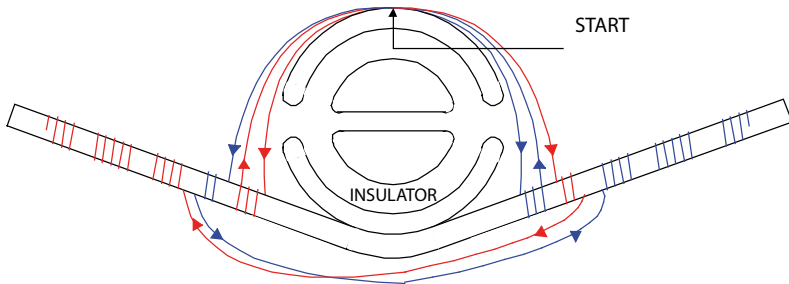

Figure 6
1. Halve the tie. Place centre at start point, (see Figure 6). Bring ends of tie around insulator and under conductor on each side.